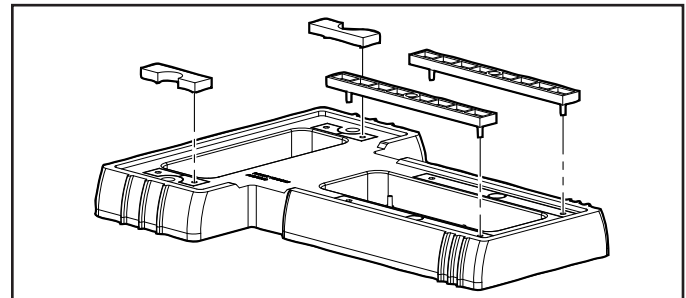

Figure 7. Snap Spacers into Place
- Align the pins in the four spacers with the holes in the base. Snap the spacers into place (Fig. 7).